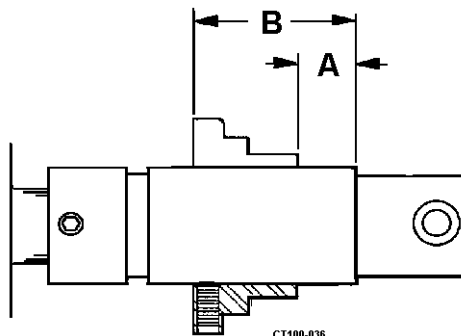

Figure 25 Drive Collar Adjustment
- Use the "A" and "B" dimensions in the Seal Chart to properly locate the drive collar on the stub shaft. See Figure 25. Tighten the set screws to secure in place.
2. See Figure 25. Assemble the spring (item B), seal cup (item C), o-ring (item D) and Carbon Seal (item E), and install as a unit, taking care that slot in seal cup aligns with the pin on shaft. Gentle pressure on the o-ring will overcome resistance on the shaft.